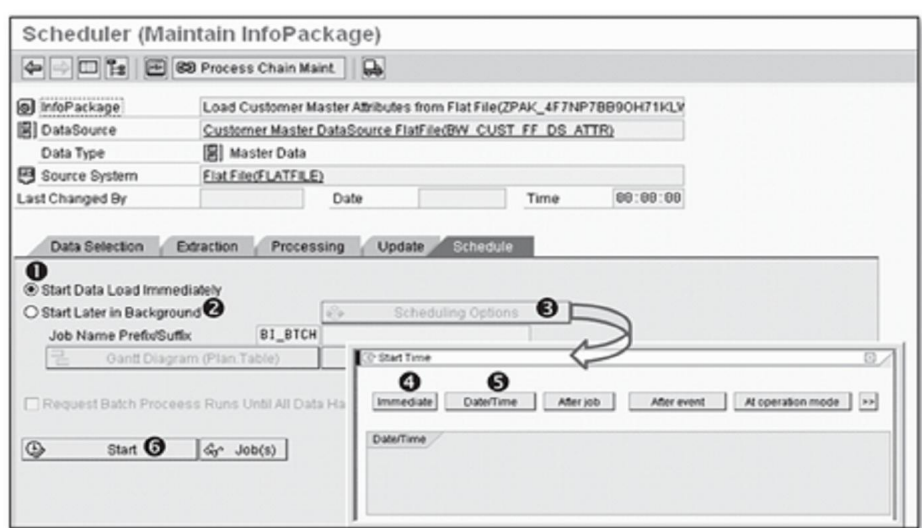

Figure 7.36 Creating an InfoPackage: Schedule Tab
Finally, the last tab is the Schedule tab, which allows you to start the extraction by selecting the Start Data Load Immediately radio button (❶ of Figure 7.36) and clicking Start (❷). Immediate extraction is done only once; if you want to extract data on a regular basis, select the Start Later in Background radio button (❸), and click Scheduling Options (❹). This results in the Start Time box shown in Figure 7.36.